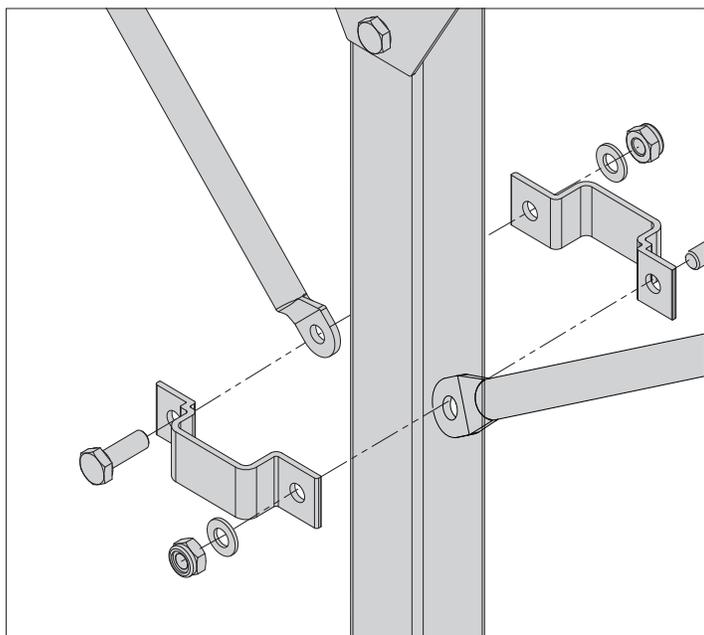

Fig. 4.5.2 Mount the side suspensions.
- Side suspension: determine the position of the supports and attach the side suspensions to the rail. Center a triangular foot and drill 2- 13/32 in. holes to attach the foot. Mount top suspension lower bracket to the support leg without tightening the bolts. Attach the leg assembly to the strut on ceiling using 3/8 in. strut hardware. Attach the side brace kit. Refer to fig. 4.5.2.